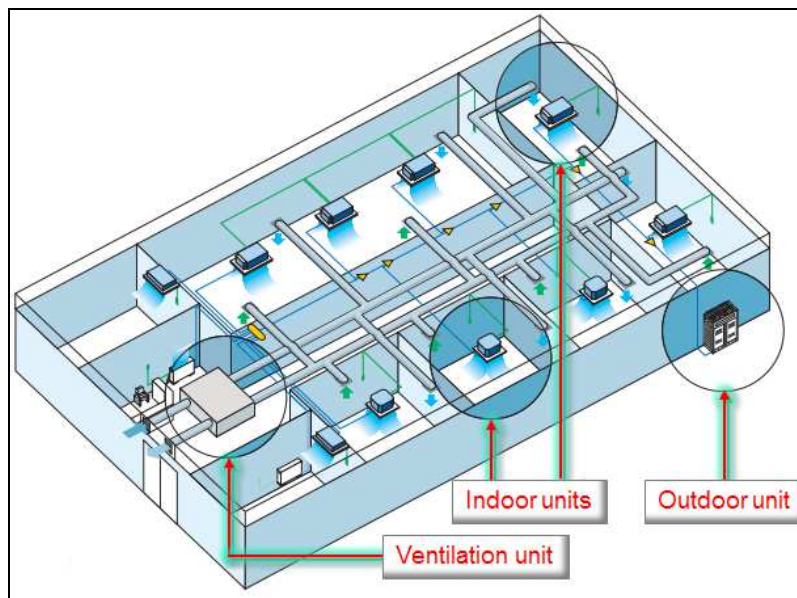

Figure 1: A building equipped with an outdoor unit, several indoor units and a ventilation unit
An air conditioning system provides cooling, heating and ventilation into rooms of a building. Such a system consists of an outdoor unit connected to mainly indoor units but also to air curtains, ventilation devices and hydro-boxes. One outdoor unit provides the cooling or heating capacity for several rooms. So, a small sized building may need only one outdoor unit, as shown in Figure 1:
- A **VKM device** is a ventilation device, providing treated ambient air to one or more rooms through ducting. Figure 1 shows a ventilation unit and its ducting, comparable to a VKM device. VRV\_Xpress uses required cooling or heating capacity of the VKM device to dimension the outdoor units it connects to. To make a full selection of a VKM device, using airflow and ducting resistance, together with the cooling and heating capacities and possibly electric heaters, you must use the VentilationXpress selection program.